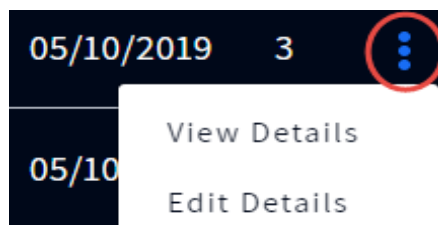

Fig. 1.17
**Drop-down and Pop-out Lists:** The down-arrow  in a field or next to the field indicates there are more options available to choose from. The More icon (the ellipsis icon with three vertical blue dots in Fig. 1.17) also indicates there are more options to choose from. Tap on the arrow or More icon to open the list and select from the available options.